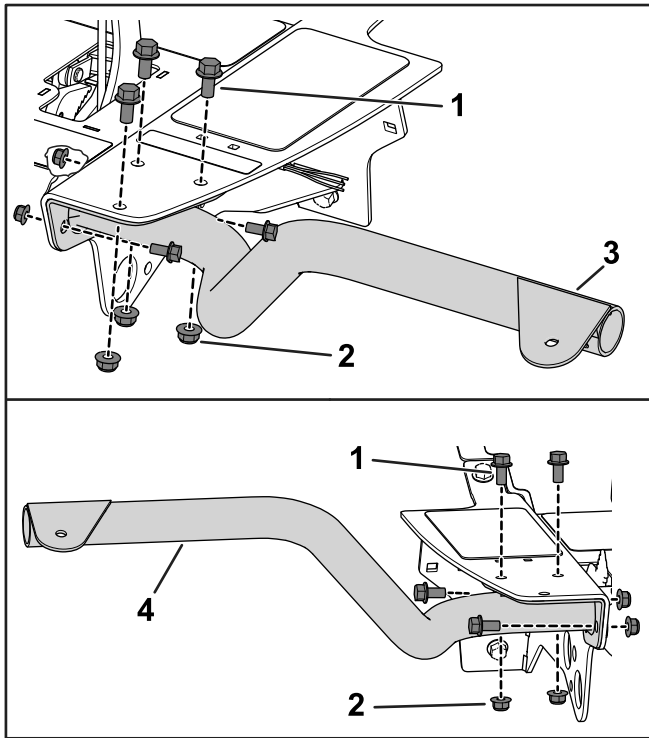

**Figure 1**
1. Unplug the shroud headlight connectors and remove the fasteners that secure the platform shroud to the machine frame (Figure 1).